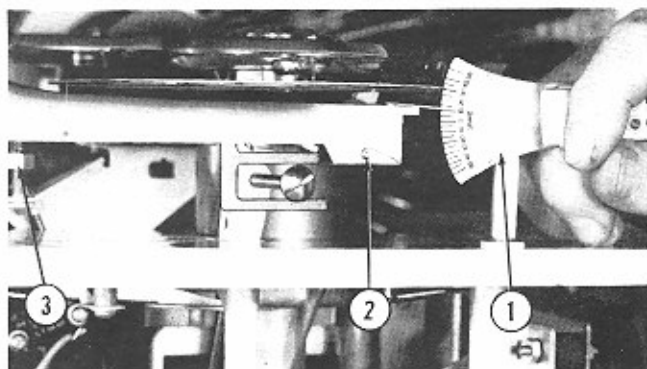

Fig. 81. NEEDLE PRESSURE ADJUSTMENT
w. Needle Pressure Adjustment. (Fig. 81)
The needle pressure adjustment is obtained by turning the needle pressure adjusting nut (Item 3, Fig. 81) in a clockwise direction to increase the pressure. The pressure of the needle against the record should be adjusted to measure 10 to 12 grams as shown in Item 1, Figure 81, and may be accomplished in the following manner:
(1) Advance the record changer cycle to its playing position and turn the power off, leaving the needle on the record.
(2) Using a sensitive gram scale, as shown in Figure 81, to measure the pressure required to just lift the needle from the record, adjust the stop nut (Item 3) to provide the desired pressure as described above.